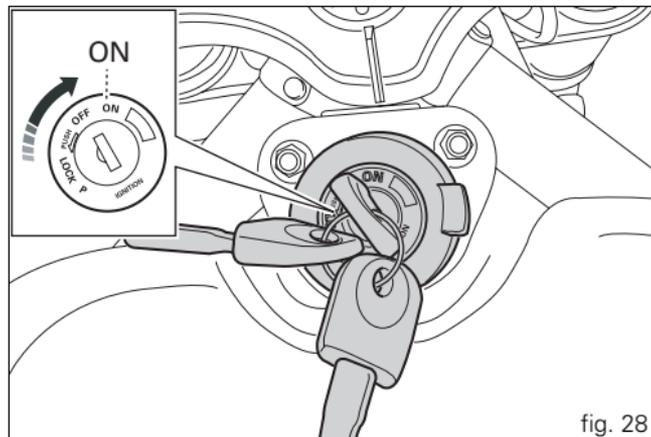

fig. 28
- 1) Turn the ignition switch to **ON** (fig. 28). Check that both the green light **N** and the red light  on the instrument panel come on.